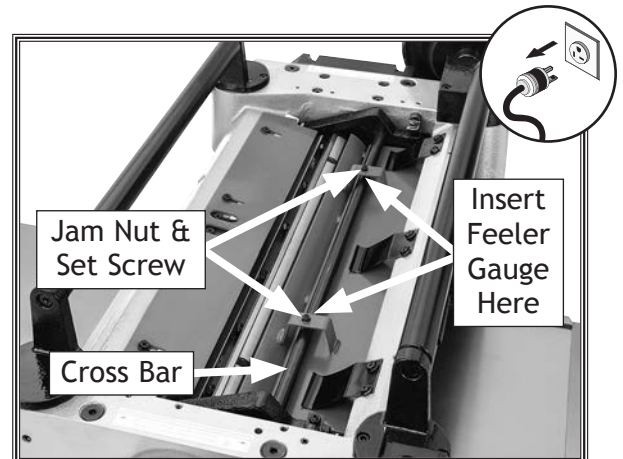

Figure 55. Example of feeler gauge locations for adjusting chip breaker height when using wood blocks.
13. Loosen jam nuts and set screws on each side of chip breaker (see **Figure 55**).
14. Using a feeler gauge, adjust set screw so it is 0.040" from cross bar (see **Figure 55**), then tighten jam nut. Repeat on other side of chip breaker.